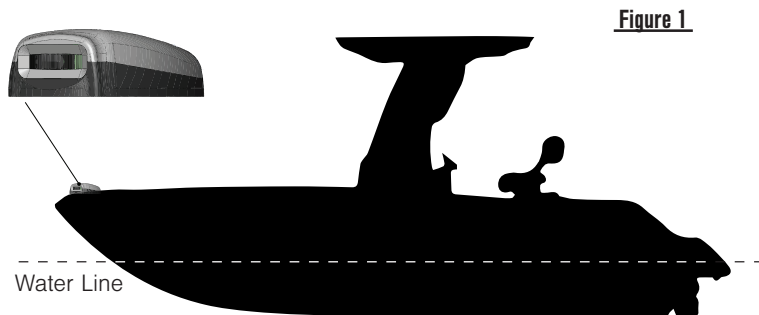

Figure 1
1. Place light in appropriate position, arrow facing forward in the direction of travel with the base level to the water line (see figure 1).